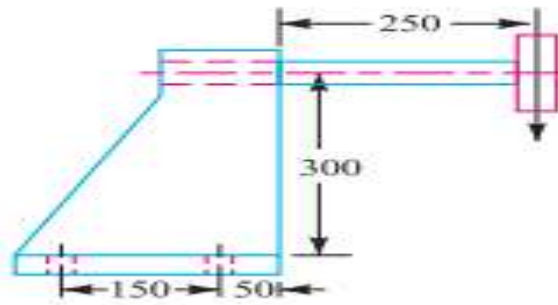

Fig. 1
6. A cast iron bracket to carry a shaft and a belt pulley is shown in Fig. 1. The bracket is fixed to the main body by means of four standard bolts. The tensions in the slack and tight sides of the belt are 2.2 kN and 4.25 kN respectively. Find the size of the bolts, if the safe tensile stress for bolts is 50 MPa. 12 M